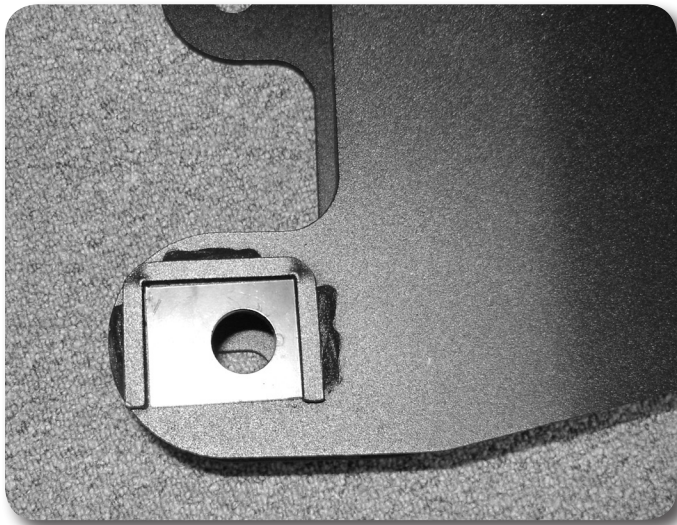

Figure 14A - 4" Lift
23. With both sides completely installed and loosely fastened, position the rectangle cam plates properly from the amount of lift on the vehicle. For lift heights of 4" or less the cam should be positioned back, so that the bolt is offset closer to the rear of the vehicle. For lift heights of 6" or more the cam should be positioned forward, so that the bolt is offset closer to the front of the vehicle. **Figure 14A/B - Cam position**